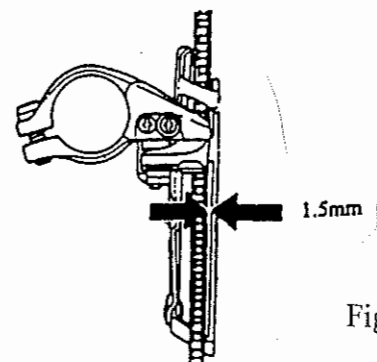

Fig. 3
- L. Using the shifting control, set the outside chainplate 1.5mm to clear outside changer cage (see fig. 3).